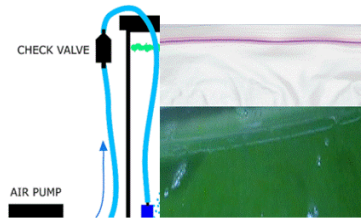

Figure 21. Schematic of Culture Bag/Air Pump Setup for Classroom VEGGIE unit
- e. The closest simulation would be to leave it open slightly so a tube from an aquarium pump can be inserted and continuously bubble the culture (as shown in Figure 21). However, this creates a risk of spillage, so only choose this option if you think you can avoid a spill.